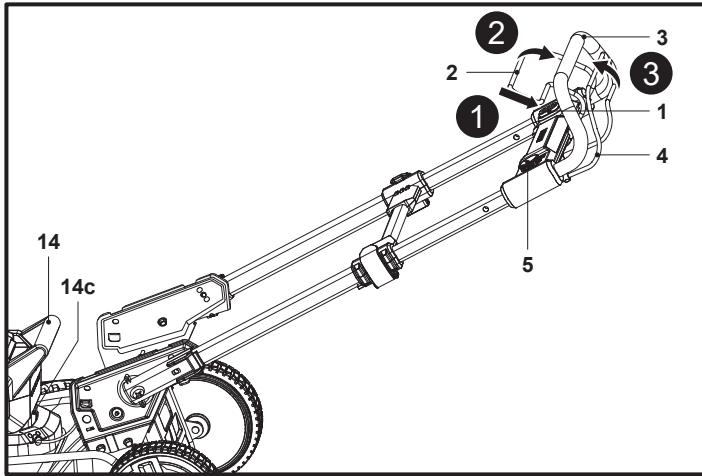

Fig. 20
1. Open the battery compartment cover (14) and install the battery pack (26) into the battery compartment (14e).
2. Close the battery compartment cover (14).
3. Stand behind the grip handle (3).
4. Choose the suitable wheel speed setting by turning the speed dial (5).
5. While holding the safety switch button (1) pressed (Fig. 20, step 1), pull the start levers (2) towards the grip handle (3) within 5 seconds and hold it in position (Fig. 20, step 2).
6. After the lawn mower starts, release the safety switch button (1).
7. The actual battery capacity will be displayed on the battery display (14c) at the back of battery compartment cover (14).
8. The work lamp (14f) at the front of battery compartment cover (14) will be automatically powered on.
9. When you are ready to mow, push the self-propelling lever (4) forward and hold it against the grip handle (3) to propel the mower forward (Fig. 20, step 3).